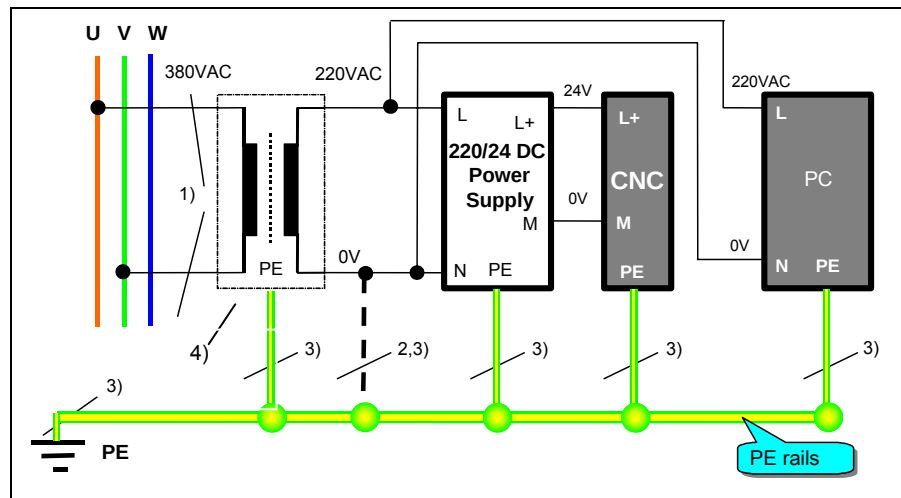

Fig. 2-1 Connecting the control transformer
- 10) Have the control transformer ungrounded in the case of poor field grounding, however, it's required to connect the 220VAC power supply for either periphery (e.g. PC/PG) to the control transformer, see Fig. 2-1.
Use a separate control transformer in the cabinet to supply the 24VDC power supply for CNC when Siemens stepper drives are used. Cable connections with the control transformer are shown in Fig. 2-1.
Notes (for Fig. 2-1):